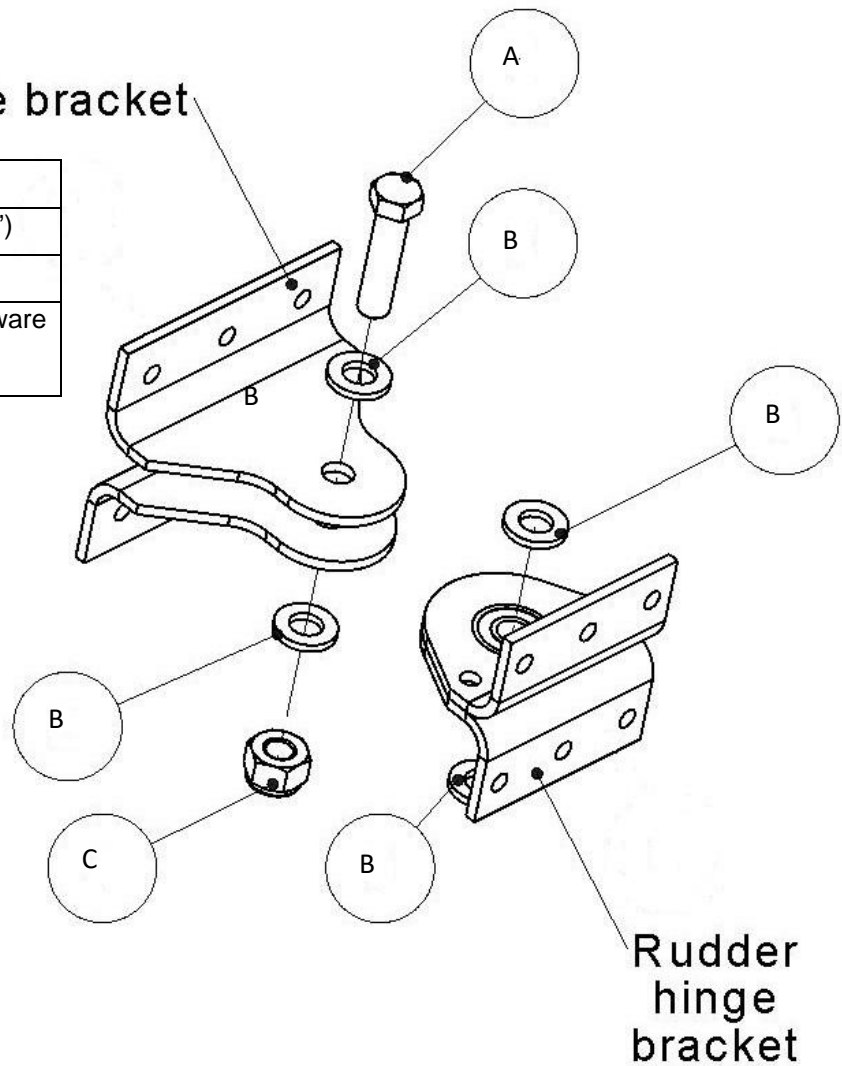

Figure 30: Rudder to vertical stabilizer hinge connection.
- Figure 30) and note that the bolts are installed with their heads facing upwards.